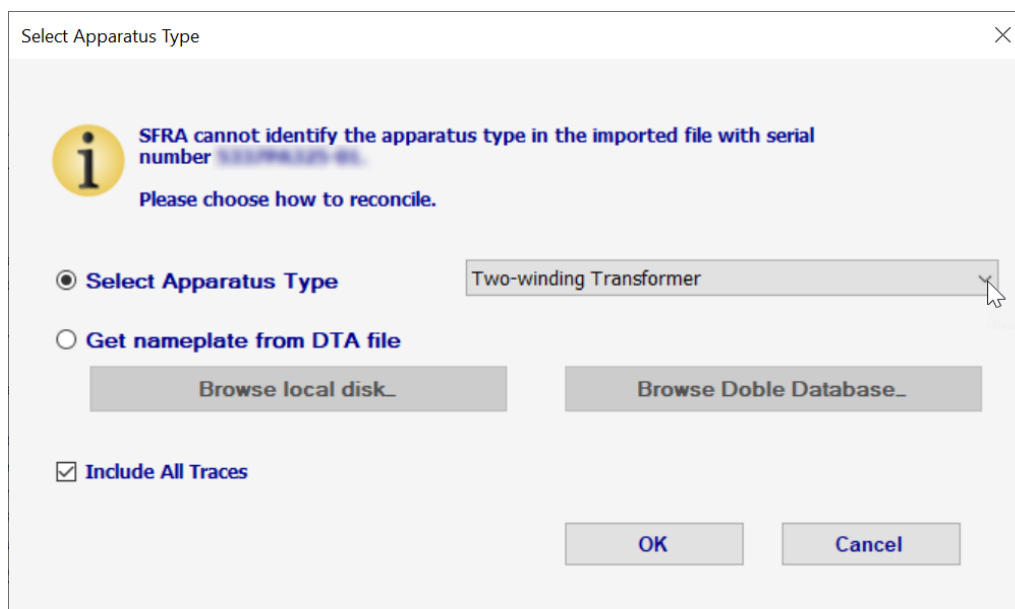

Figure 8 - Select Apparatus Type
7. When opening any file other than an SFRA 6 (.sfrx) file (including non-Doble files) the SFRA 6 software asks you to identify the Apparatus Type, Figure 8. SFRA 6 will suggest an apparatus type based on the information in the file, with the default being Two-winding Transformer when the software can't make a different suggestion. In the prompt, select the correct apparatus type for the file and click **OK**.